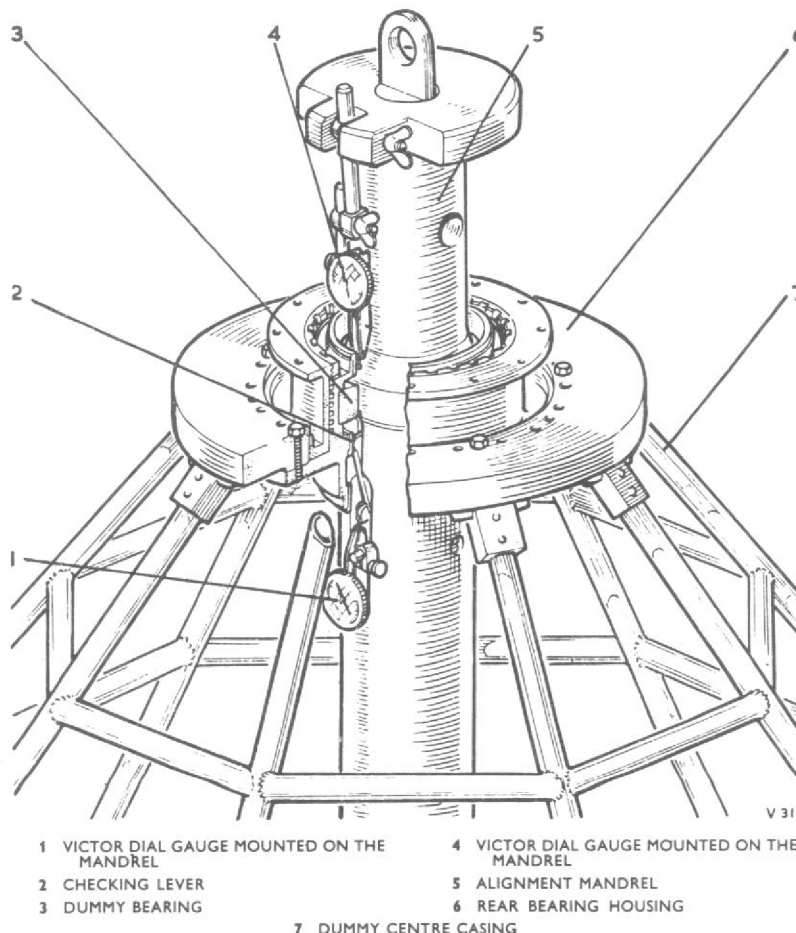

Fig. 4. Checking concentricity of the rear bearing safety bearing
8. Diffuser bolts must be assembled in their correct numerical positions in accordance with the markings stamped on the bolts and the casing. The disposition of the bolts in the diffuser casing is shown in fig. 4, Chapter 27H. The diffuser casing and diffuser casing rear cover must be handled carefully to avoid damage to studs and mating surfaces. Ensure that the trunnion mounting bolt holes have been spot-faced to enable the bolt heads and washers to seat correctly.
11. (1) Insert the support bar of a Victor dial test indicator into the hole below the rear bearing position on the mandrel; adjust the position of the D.T.I. until the stylus contacts the button on the operating lever, then secure the D.T.I. by tightening the Allen set-screw on to the support bar; rotate the mandrel and check that the eccentricity of the inner housing plain bearings in relation to the front and rear dummy main bearings is within the limits (fig. 4).
- (2) Remove the Victor D.T.I. and attach it to the collar above the rear bearing position on the mandrel; adjust the position of the D.T.I. until the stylus contacts the bore of the sealing housing plain bearing as shown in fig. 4, then secure it by tightening the wingnut. Rotate the mandrel and check that the eccentricity of the sealing housing plain bearing in relation to the front and rear dummy main bearings is within the limits.